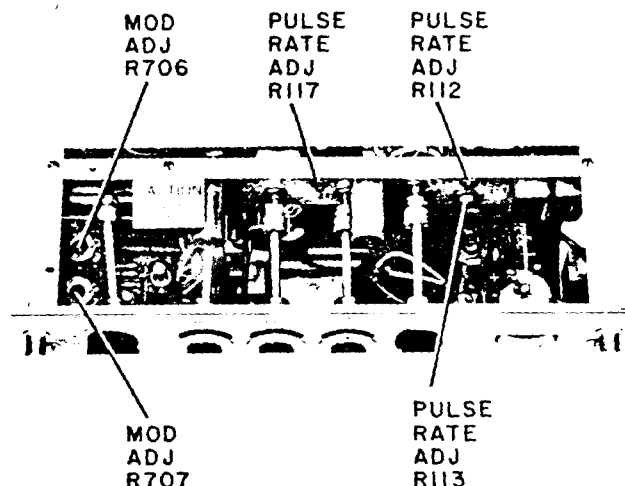

Figure 5-8. Location of Klystron and Modulator Adjustments (618C)
c. With the MOD. SELECTOR set to CW, adjust R707 (Figure 5-8) for a klystron cathode current of  $25 \text{ mA}$  maximum (approximately  $15 \text{ mA}$ ).
c. Adjust potentiometer R112 (Figure 5-8) so that the counter indicates 4800 Hz.
e. Adjust potentiometer R113 (Figure 5-8) so that counter indicates 480 Hz.
g. Adjust potentiometer R117 (Figure 5-8) so that counter indicates 30 Hz.